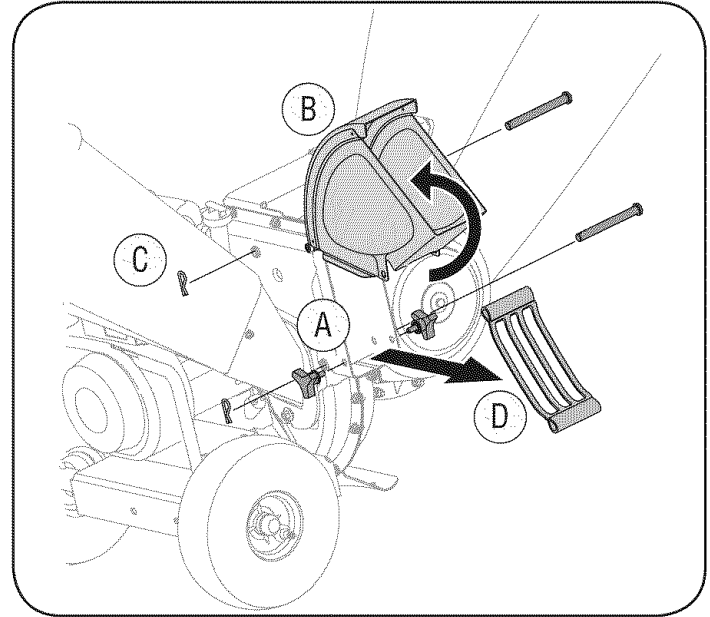

Figure 14
- a. Remove the bag and two wing knobs on each side of the chute deflector. See Figure 14.
- d. Remove the flail screen from inside the housing and clean the screen by scraping or washing with water. See Figure 14.